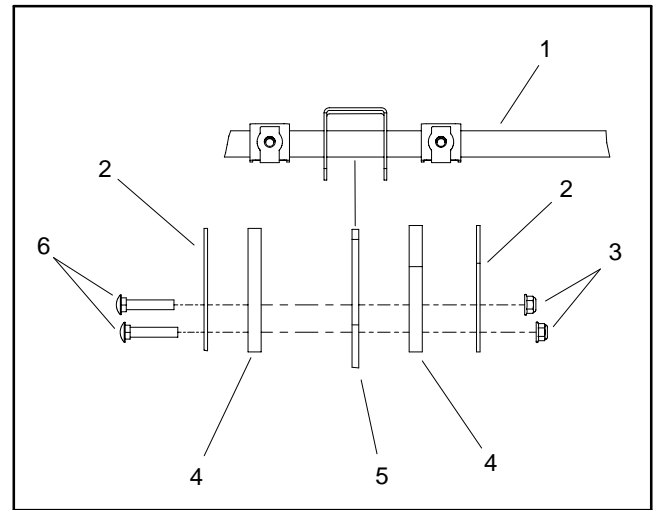

Figure 41
- A. Secure rear cover pivot components (items 10 and 14) to chopper housing with two (2) carriage screws and flange nuts (Fig. 41).